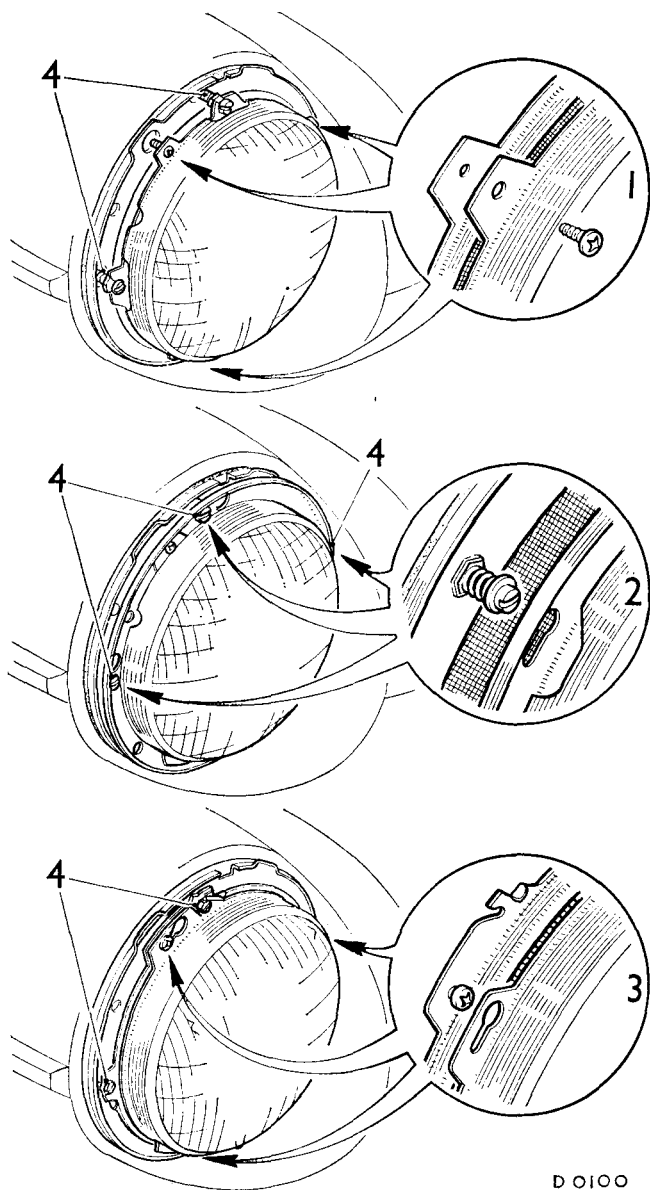
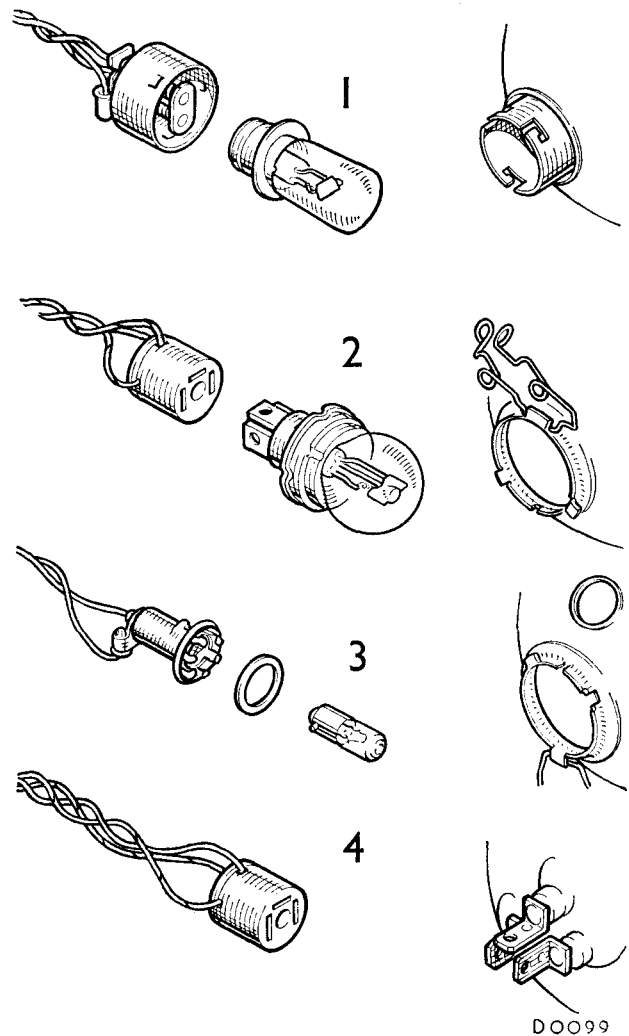

Fig. N.14
Fig. N.15
The two types of headlamp fitted have sealed-beam units or, alternatively, replaceable bulb light units. Variations within the two basic types cater for the local lighting regulations existing in the country for which the car was produced. The method of retaining and adjusting the light unit together with the type of lens and bulb used are subject to territorial variation. Fig. N.14 shows the alternative methods of retaining and adjusting the light unit and Fig. N.15 the different types of bulb fittings used.
REMOVABLE-TYPE RETAINING SCREW (1) Fig. N.14
COMBINED ADJUSTING/RETAINING SCREW (2) Fig. N.14
CAPTIVE-TYPE RETAINING SCREW (3) Fig. N.14
CAP-TYPE HOLDER (1) Fig. N.15
SPRING CLIP TYPE (2) Fig. N.15
HEADLAMP PILOT LAMP (3) Fig. N.15
22. Set the beam horizontally by turning the adjusting screw located on the right-hand side or, on some models, the adjusting screws on both sides of the lamp (see Fig. N.14) in the required direction.